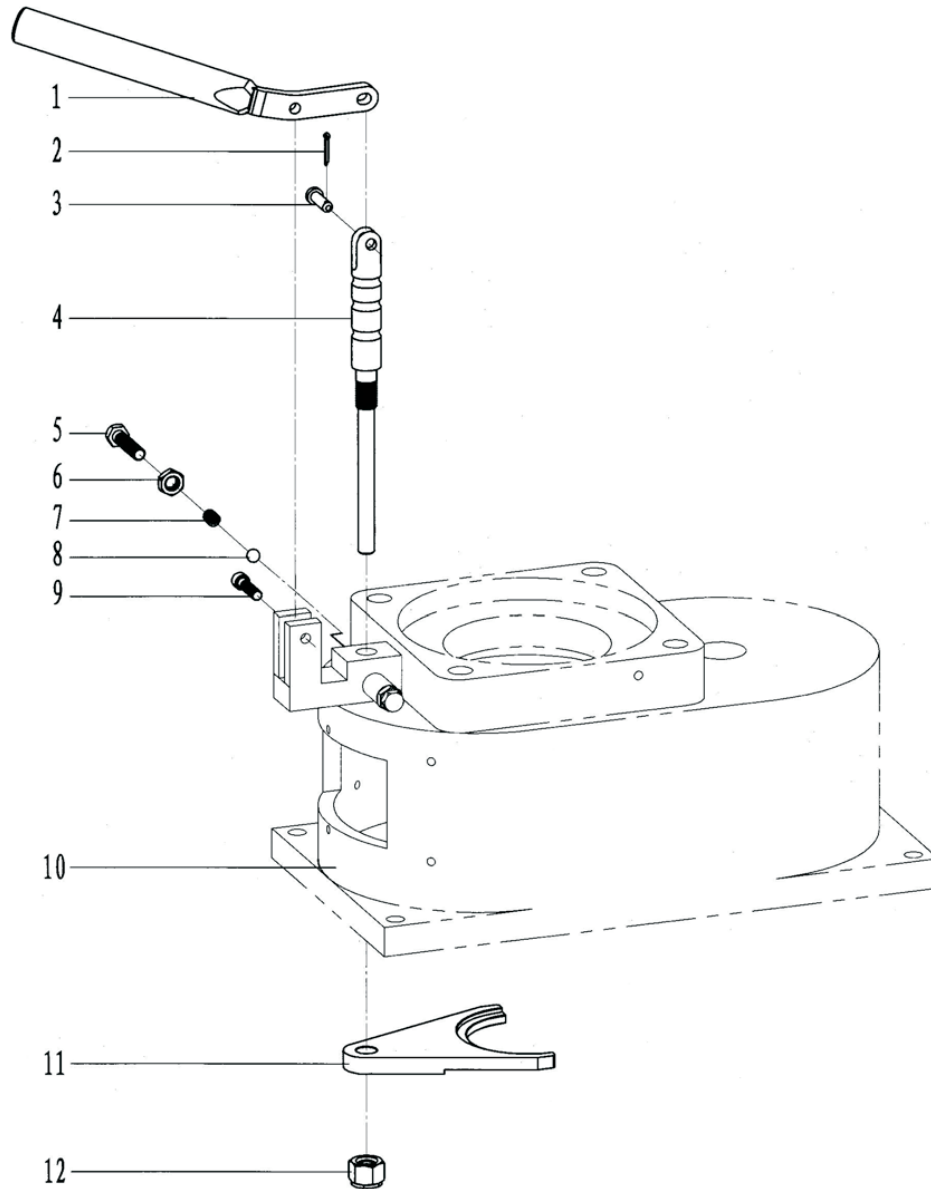

Fig.15
7.13 Gear shifting assembly(upper)(Fig 15, Table 15)